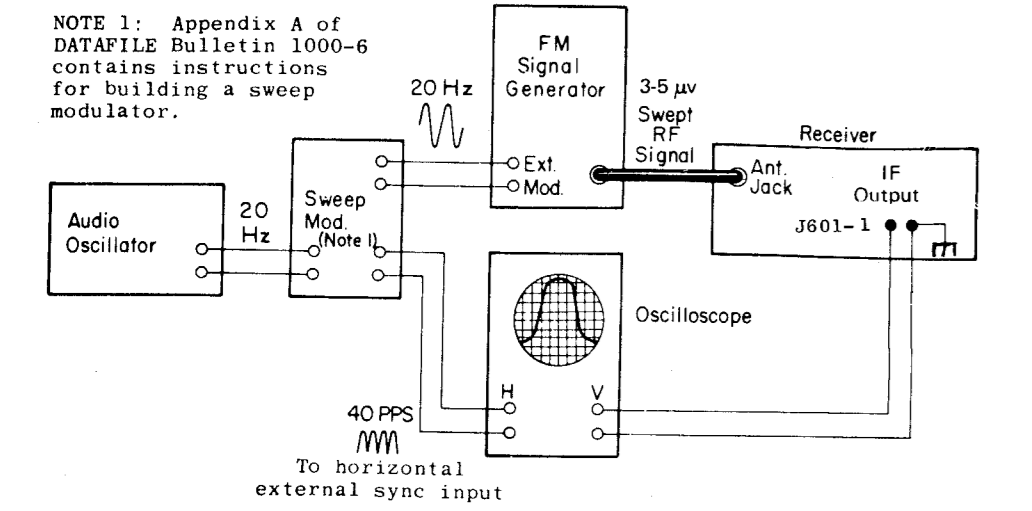

Figure 2 - Test Setup for 20-Hz Double-Trace Sweep Alignment
13. Connect scope for signal generator, and probe as shown in Figure 2. Set signal generator level for 3 to 5 μV and modulate with 10 kHz at 20 Hz. With probe between J601-1 and A-, tune L505, L520, L521 and C521, for double trace as shown on scope pattern.